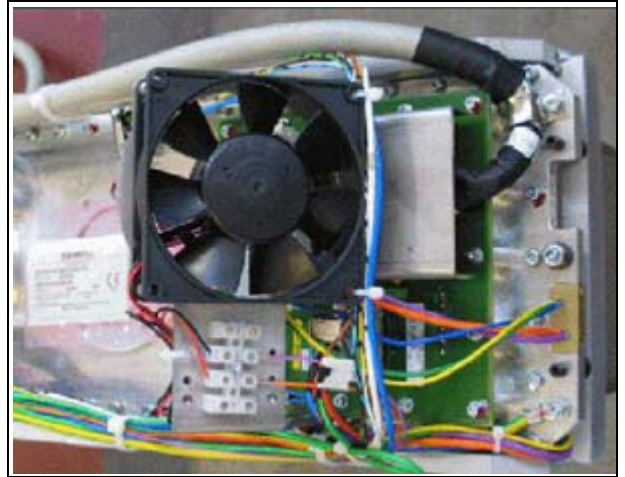

Fig. 12: tank\_connection
5. Loosen all plugs, screw and cable connections from the single tank (Fig. 12 / p. 33).
6. Remove the bracket with fan (Fig. 12 / p. 33).
6. Install the bracket with fan (Fig. 12 / p. 33).
7. Connect all cables (Fig. 12 / p. 33).
8. Tighten cable connections X7 and X9 (Fig. 12 / p. 33) with a torque of 4.8 Nm.
3. Remove the fan (Fig. 12 / p. 33).